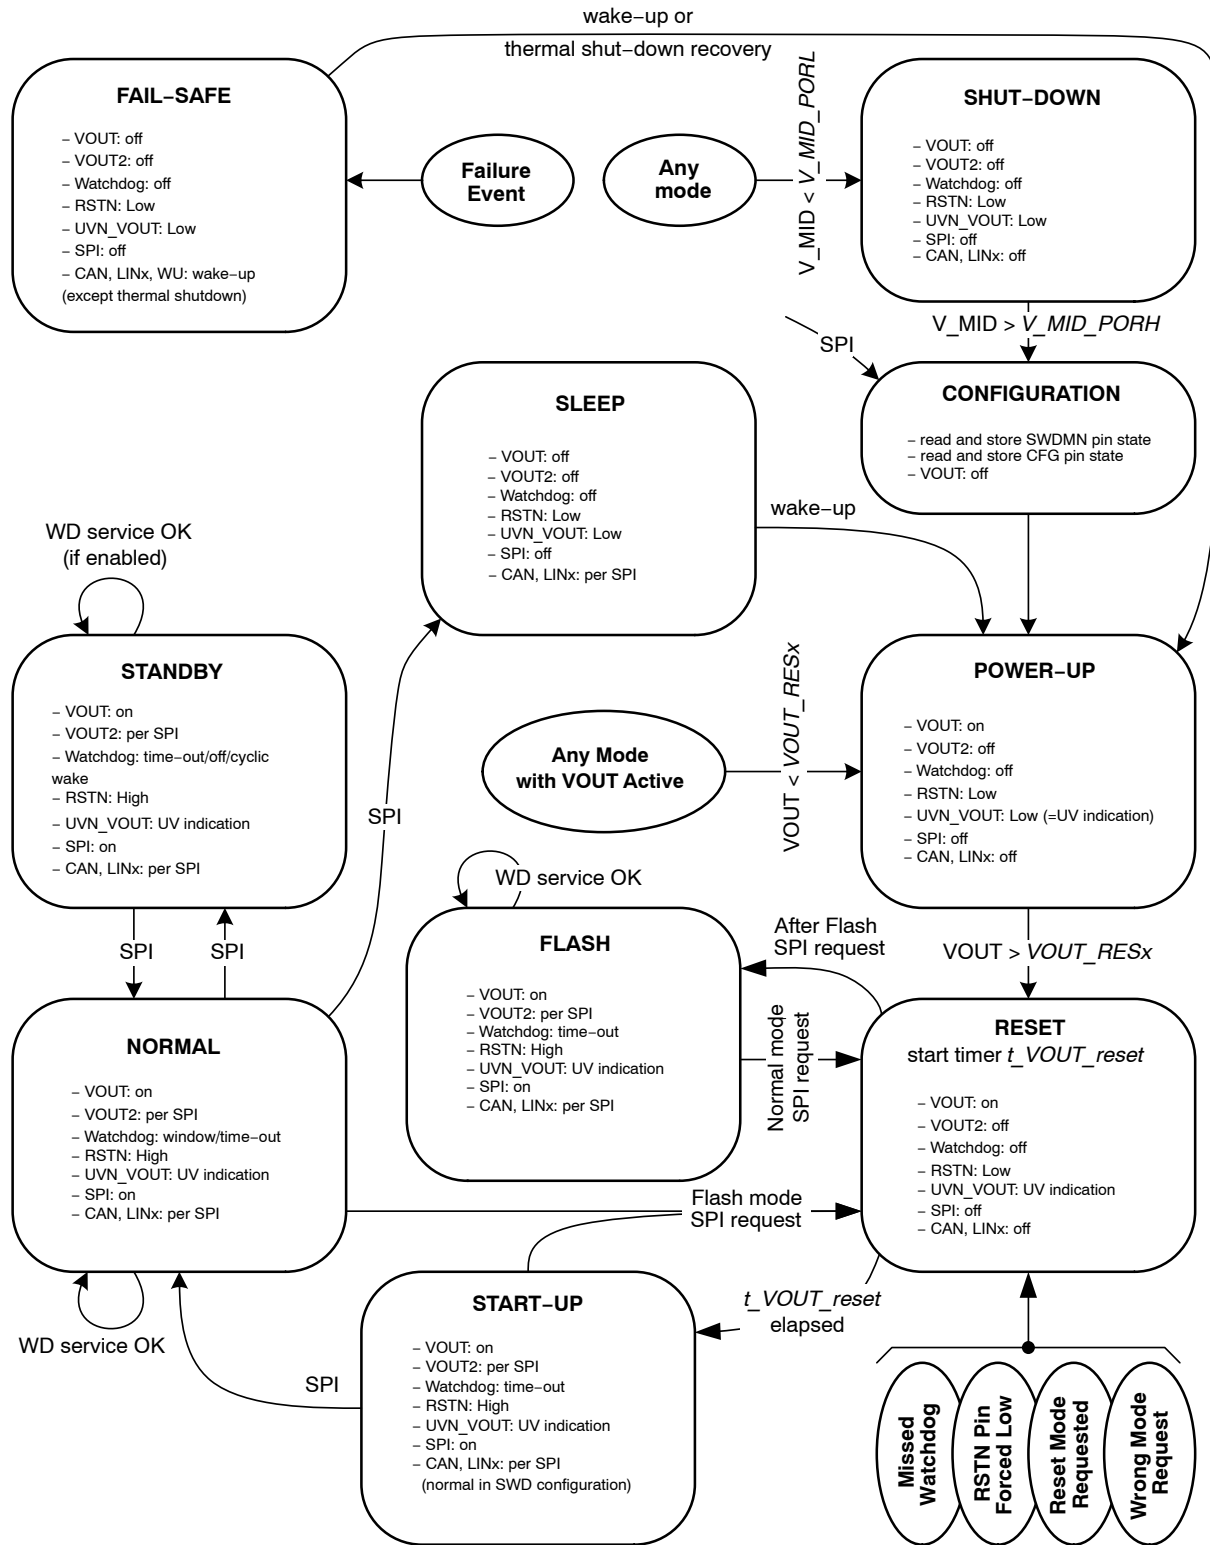

Figure 12. Operating Modes
The principal operating modes of NCV7471(A) are shown in Figure 12 and described in the following paragraphs.